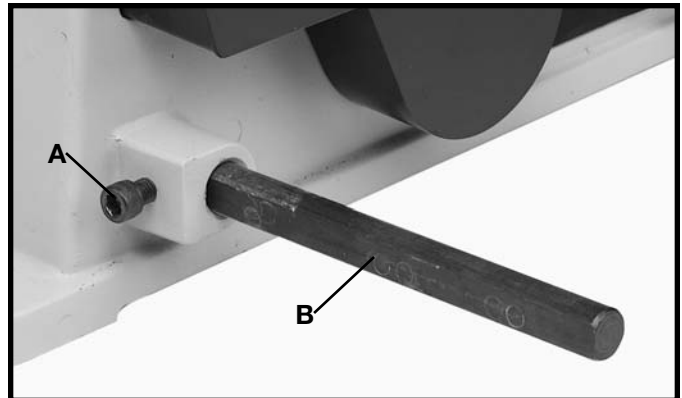

Fig. 11
1. Thread 13/16" (20mm) long socket head screw (A) Fig. 11, part-way into threaded hole in base of sander and insert rod (B) into hole as shown. Rod (B) should extend 5 inches outside base. Align flat on rod (B) with screw (A) and tighten screw (A) to hold rod (B) in place.